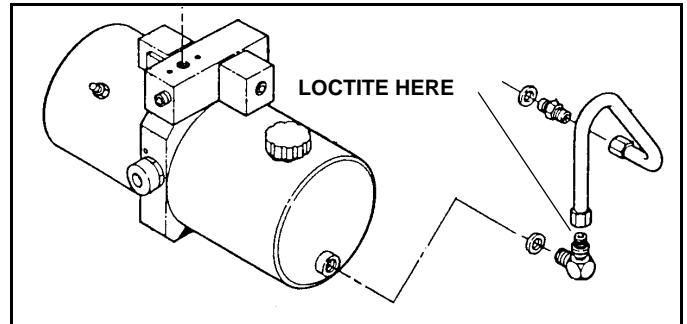

Figure 2-8
24. Reinstall Hydraulic Tube in end of reservoir. Use LOCTITE® 242 (Blue) on threads of fitting which mate with nuts on Hydraulic tube. (See Figure 2-8)